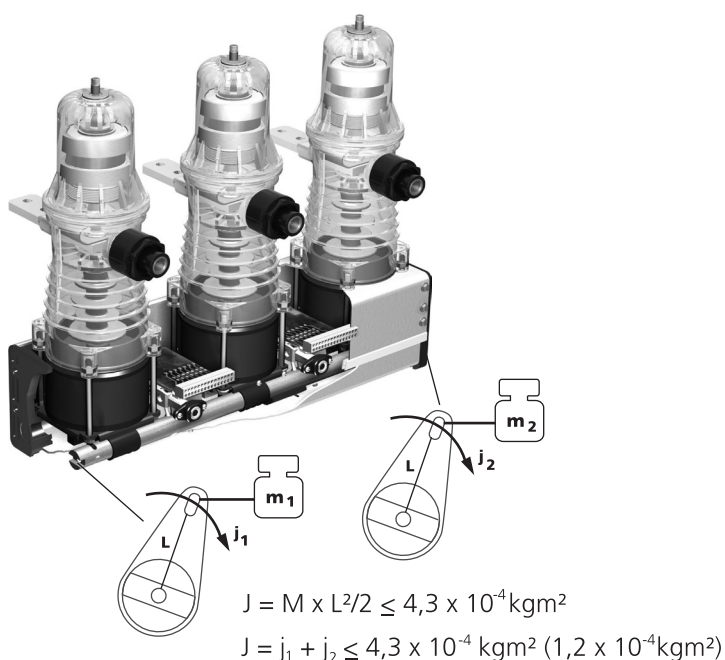

Figure 34
- If the interlocking mechanism is directly attached with the synchronizing shaft the moment of inertia of the attached mechanism shall not exceed $4,3 \times 10^{-4} \text{ kg/m}^2$ ($1,2 \times 10^{-4} \text{ kg/m}^2$ for ISM/TEL 12-20/1000-055F series). If both stub shafts of the synchronizing shaft are used, the sum of the attached moments of inertia shall not exceed $4,3 \times 10^{-4} \text{ kgm}^2$ respectively $1,2 \times 10^{-4} \text{ kgm}^2$ (Figure 34).